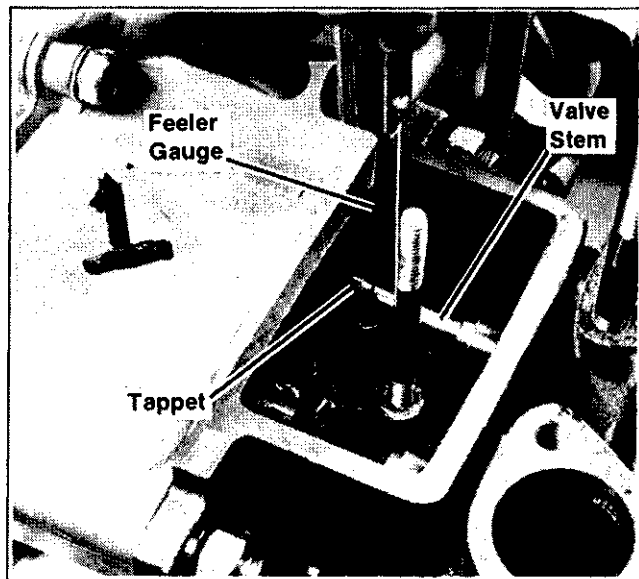

Figure 8-27. Checking Valve Clearance
2. Rotate camshaft to position where cam has no effect on tappets—hold valve firmly on seat and check clearance between valve stem and tappet. Intake valve clearance (cold) should be between .003" and .006", and exhaust valve clearance (cold) is between .011" and .014" (see Figure 8-27). If clearance is insufficient, grind end of valve stem until correct clearance is attained. Make sure stem is ground perfectly flat.